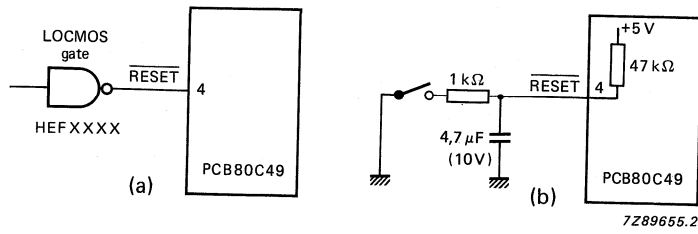

Fig. 10(a) External reset circuit; (b) power-on reset.
**$\overline{\text{RESET}}$  input** (see Fig. 10)